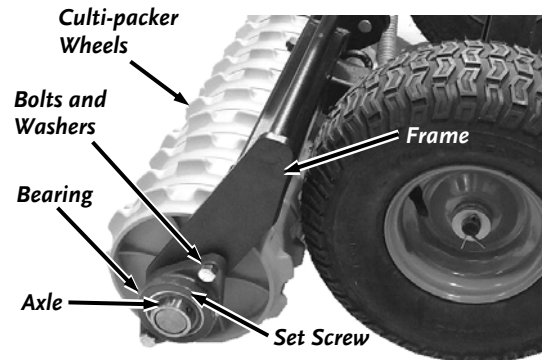

Figure 34
1. Loosen the Bearing Set Screw (**Figure 34**).
1. Loosen both Bearing Set Screws (**Figure 34**).